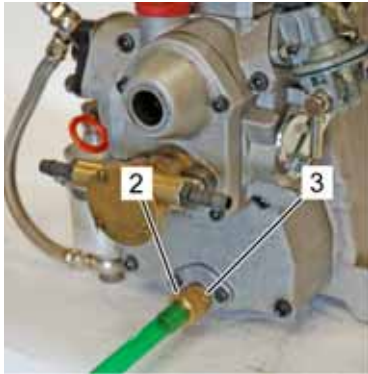

Fig. 49
6. Check O-rings (4) for damage and replace oil drain valve (Fig. 49/3) if necessary.
7. Tighten the sealing cap (5) by hand.